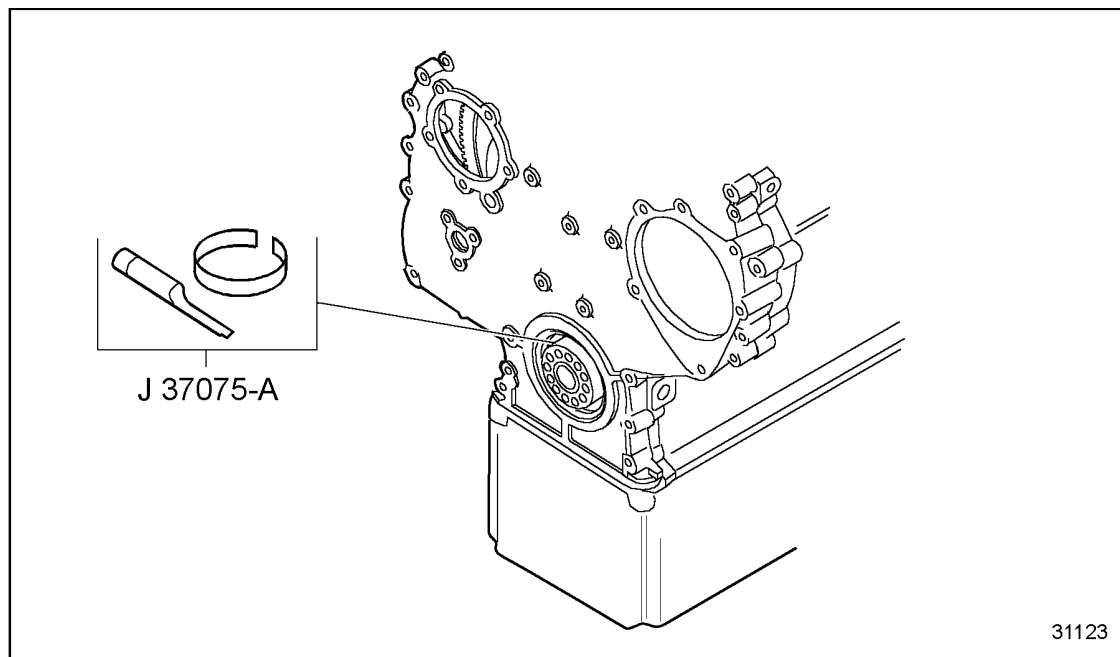

Figure 1-124 Oil Seal Sleeve Removal Tool for the Federal Mogul Seal
7. Remove oil sleeve using crank oil sleeve remover, J 37075-A. See Figure 1-124.